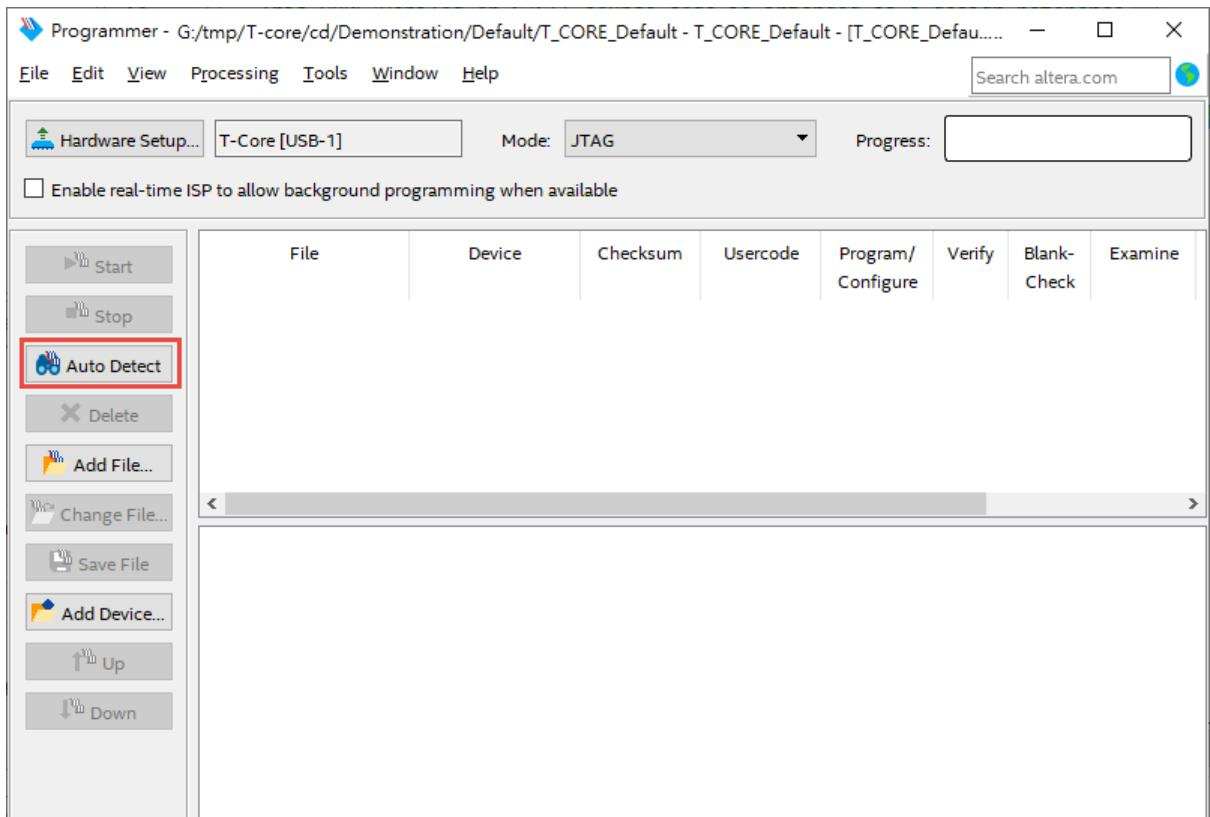

Figure 2-5 Detect FPGA device in JTAG mode
- Click “Auto Detect” to detect all the devices on the JTAG chain, as circled in **Figure 2-5**.